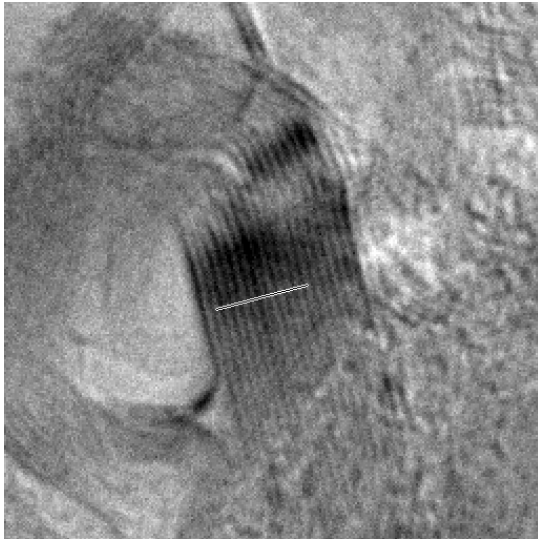
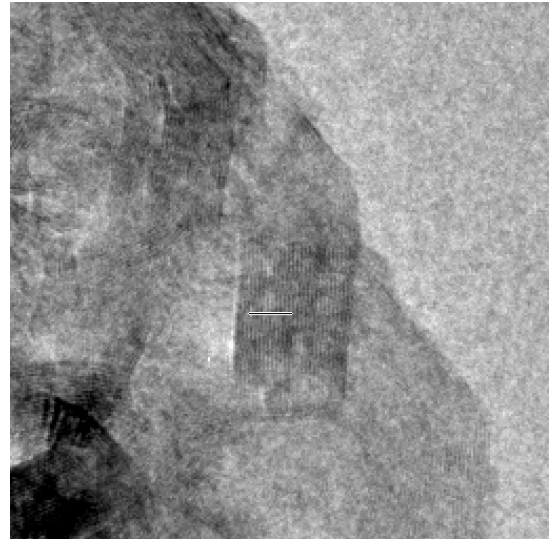

Fig. 2a (CCD#1)
Fig. 2b (CCD#2)
- Measure the distance of the line pairs in CCD pixels. If the total resolution loss (the "puddle") is about the same size as the CCD pixel, one would find that the distance of the line pairs in the recorded image is about the size of 2 pixels (fig.2b). Otherwise, one would find the distance of the line pair is much larger than the size of 2 pixels (fig.2a).